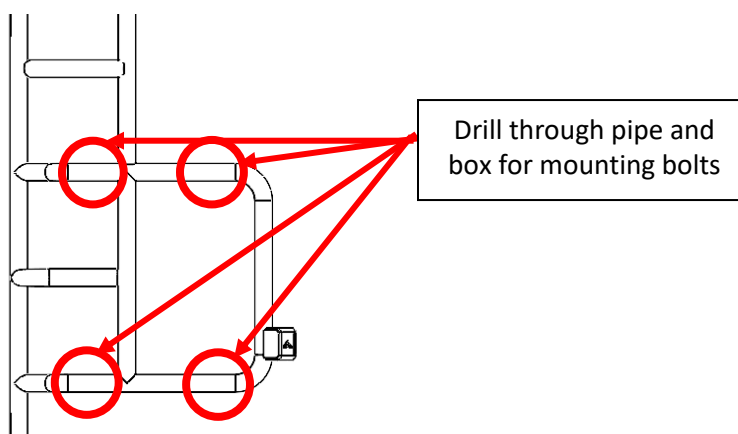

Figure 7: Drill and bolt locations for mounting box on ladder/tire rack
13. Drill four - ¼" holes through the pipe and match them with holes on the box as seen in Figure 7 (before drilling read the drilling tips and notes below).